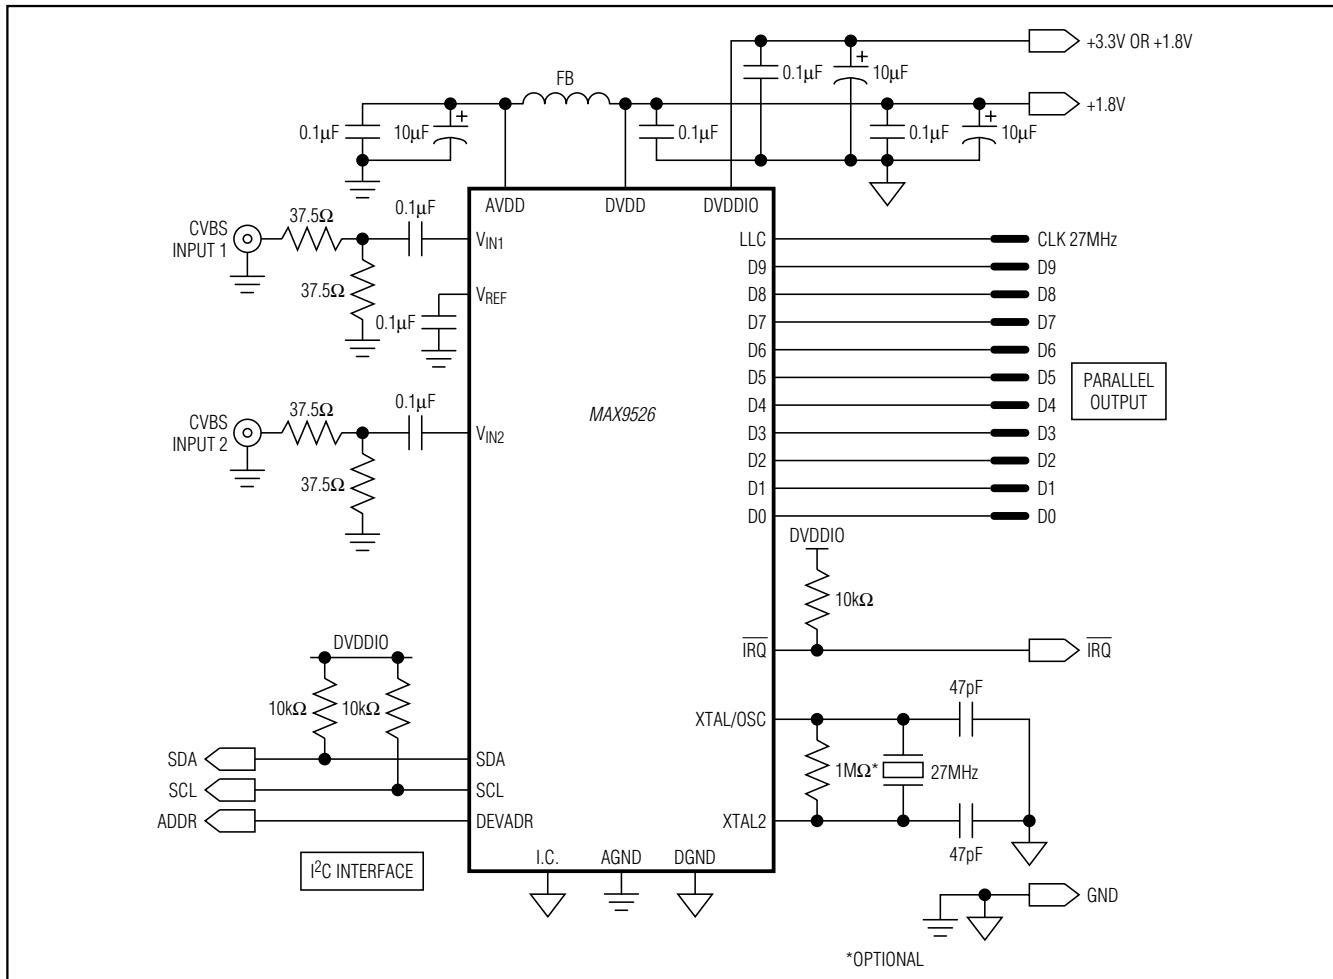

Figure 8. MAX9526 Typical Application Circuit with Additional Supply Isolation
For systems where additional power-supply isolation is required, the circuit shown in Figure 8 can be used. Additional supply decoupling is added and analog power (AVDD) isolation is increased with the use of a ferrite bead (FB). The analog ground connection (AGND) should be connected to a separate ground plane that has a small bridge to the main ground plane of the system. The video input termination (VIN1/VIN2), video reference (VREF) decoupling, and AVDD supply decoupling should also be connected to the AGND ground plane.